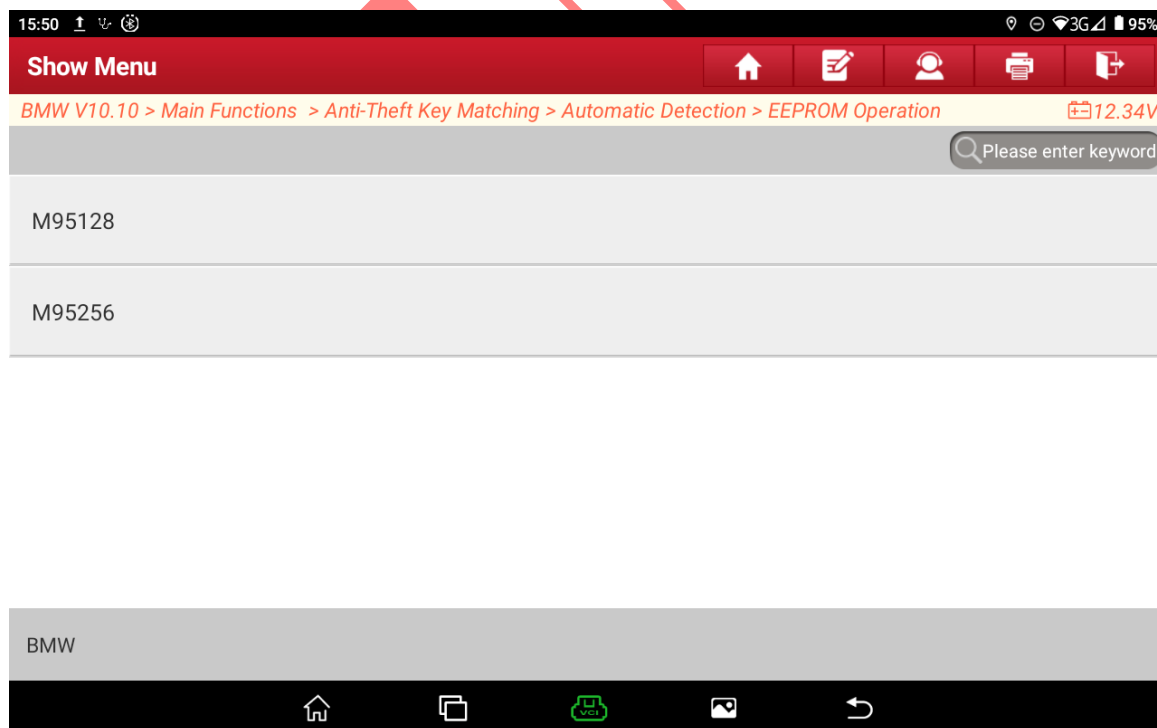

Figure 28
28. Select **【M95128】**, as shown in Figure 28.